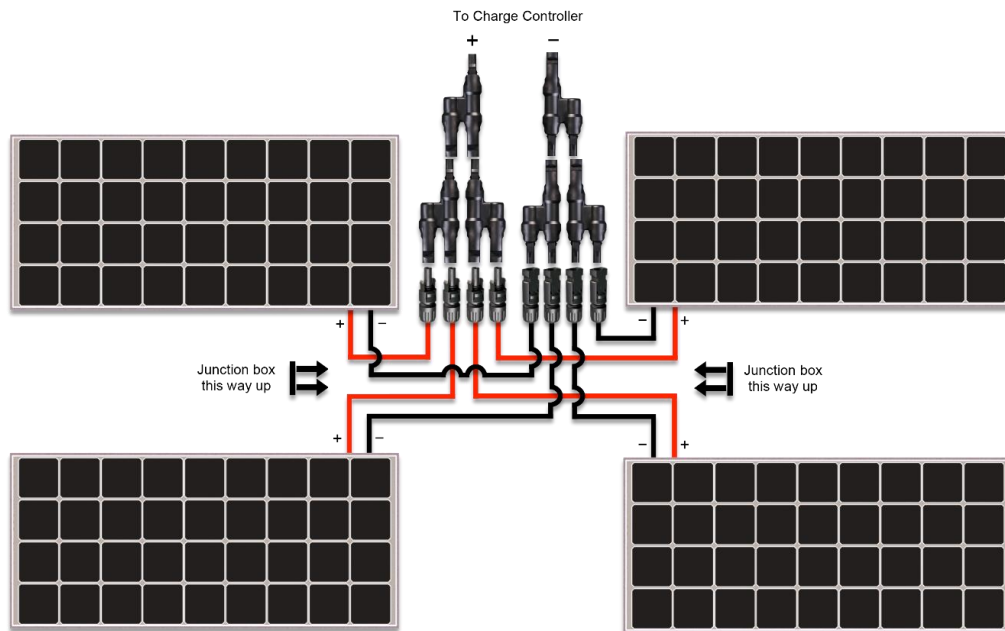

Figure 8.4 Four RNG-100D Panels in parallel
Fig. 8.4 shows the arrangement for connecting four solar panels in parallel. This arrangement is applicable if the solar panels are to be mounted in a **2x2** configuration as shown above. Please note that the positioning of the junction boxes must be followed for the cables to reach the MC4 Branch Connectors. This connection requires **three (3)** pairs of MC4 Branch Connectors. When one or multiple panels are mounted at different locations- that is, separated by a distance, the panels must be extended with MC4 Extension Cables (sold separately).